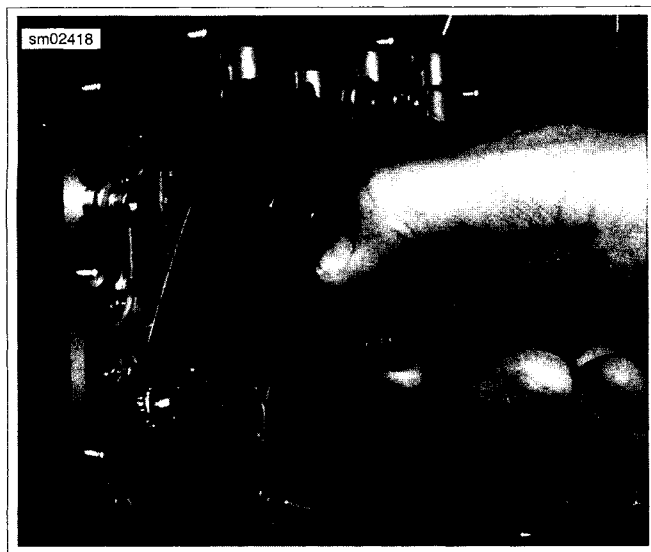

Figure 3-81. Check Alignment of Crank and Rear Cam Sprocket Faces
- e. See Figure 3-81. Place a straightedge across the crank and primary sprocket faces. Attempt to insert a 0.010 in. (0.254 mm) feeler gauge between the straightedge and the each sprocket face. If the feeler gauge will not fit at either location, sprocket offset is within specification. Remove both sprockets and discard temporary small washer.